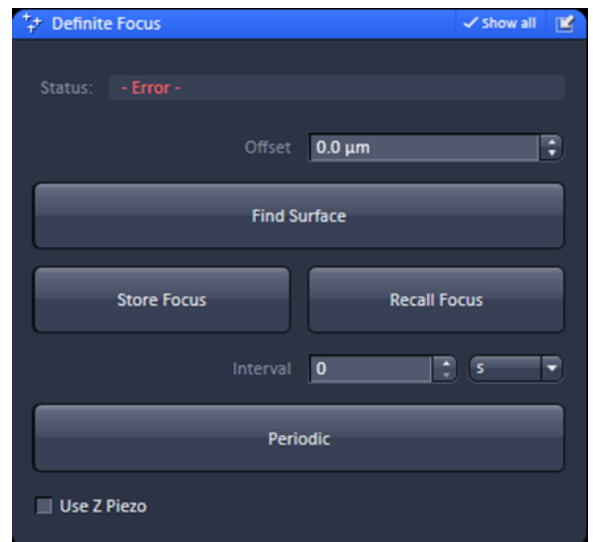

Fig. 167 Definite Focus tool: "Status: " line with "- Error -" message.
- **Error** (in red): occurs when the Definite Focus has no sufficient signal or when there is an error on the hard- or firmware (Fig. 167).